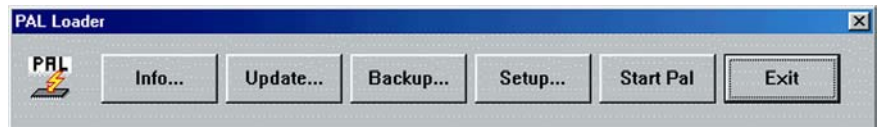

Figure 22 PAL Loader menu screen
- 3 Double-click the PAL Loader icon, the PAL Loader screen appears (see Figure 22).